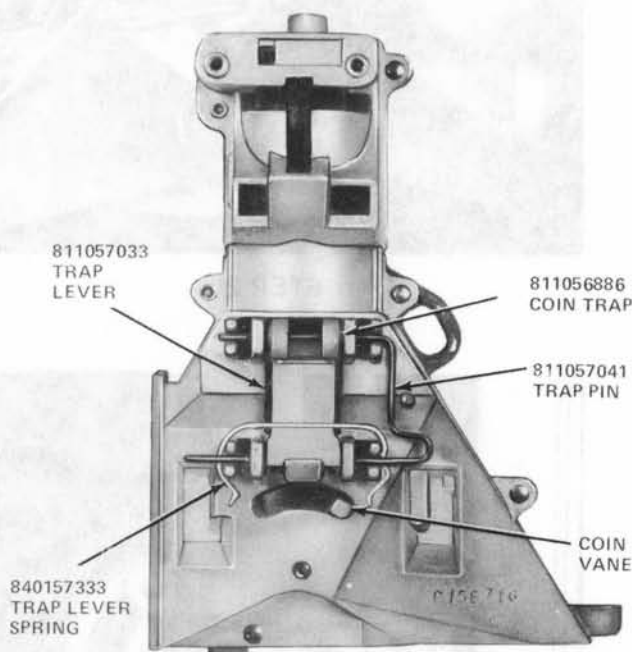

Fig. 60—Coin Trap and Trap Lever Assembly
- (1) Move the vane to the right.
- (2) Remove the trap pin shown in Fig. 60 by sliding the vertical portion over the boss on the front of the hopper.
- (3) Turn the coin trap sideways and remove it through the opening.